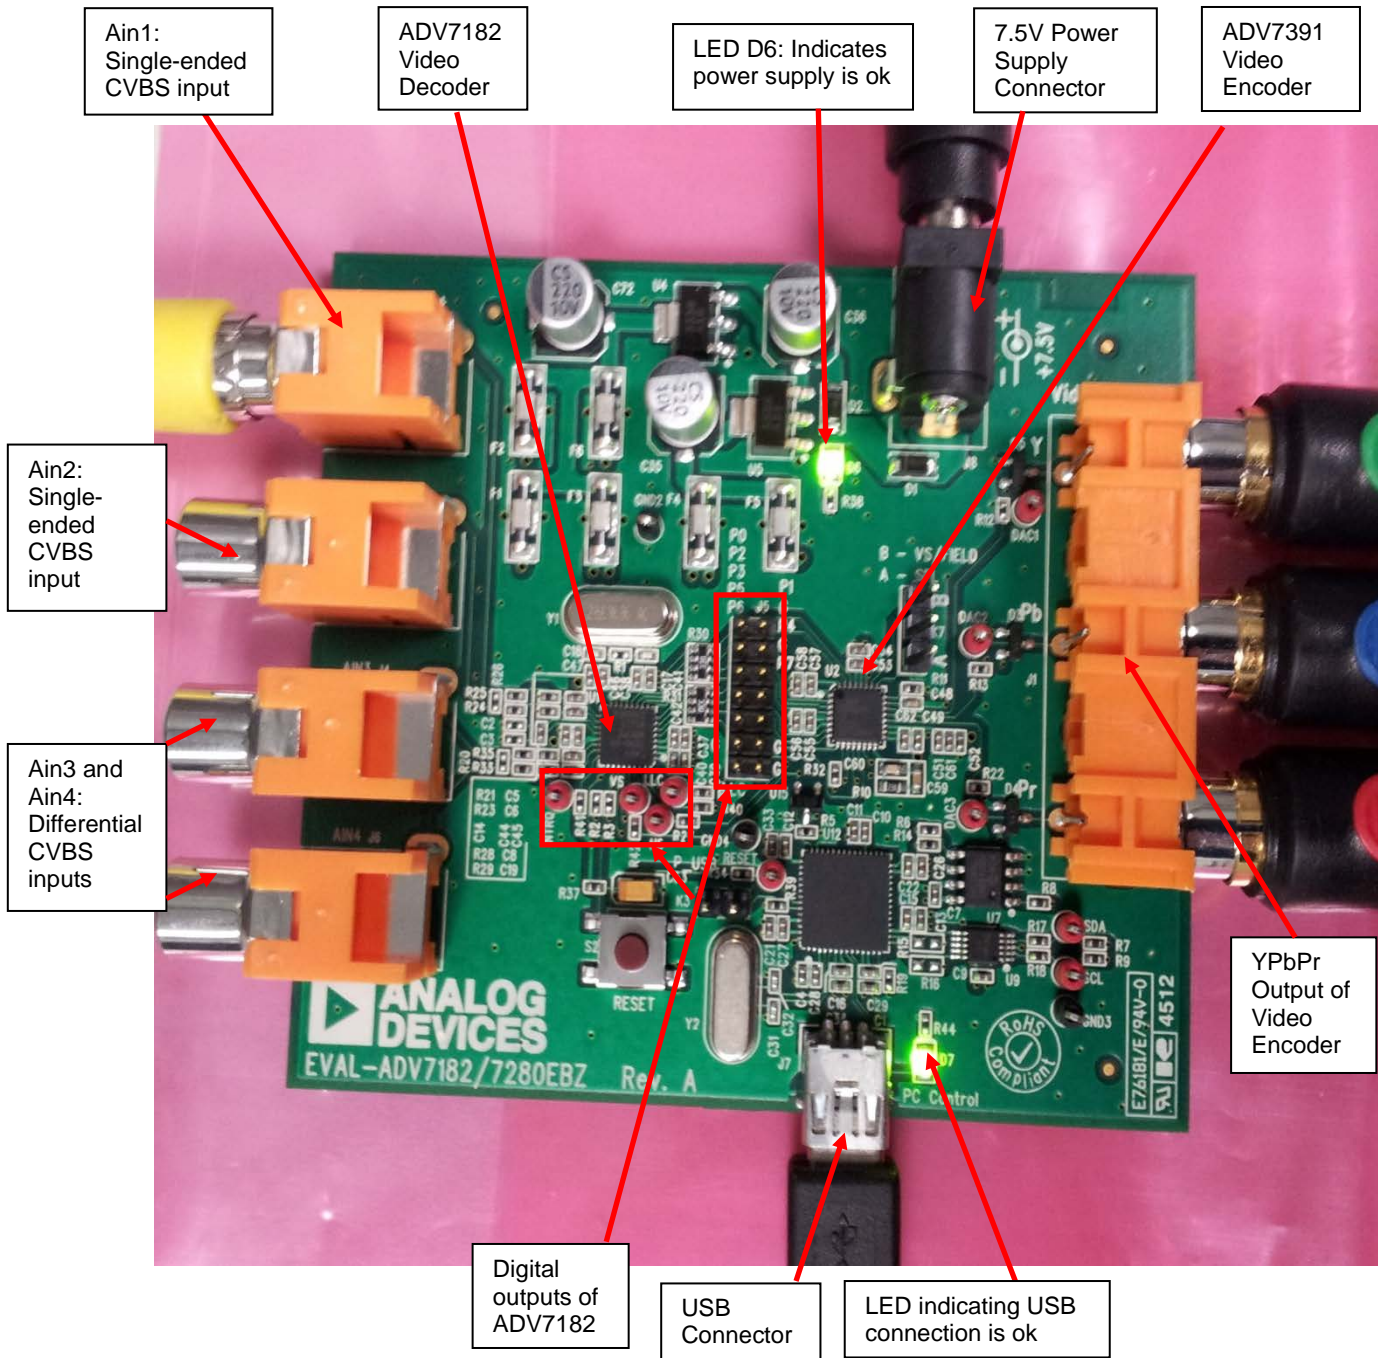

Figure 1. ADV7182 Evaluation Board
The digital output stream of the ADV7182 is fed to headers and into the ADV7391 video encoder (refer to Figure 1). The ADV7391 converts this digital stream into an analog YPbPr output. The analog YPrPb output from the ADV7391 is fed to the Video Output header of the evaluation board.
2. Connect the 7.5 V supply cable to Jumper J8 on the ADV7182 evaluation board. When this is done correctly, LED D6 turns on (refer to Figure 1).
4. Connect the other end of the USB cable to Jumper J7 of the ADV7182 evaluation board. When this is done correctly, LED D7 turns on (refer to Figure 1).
- The digital output of the ADV7182 can be probed with an oscilloscope or a digital grabbing device. The 8-bit pixel data is output to header J5. There are also headers for the LLC pin, HS pin and VS/Field/SFL pin. Refer to Figure 1.